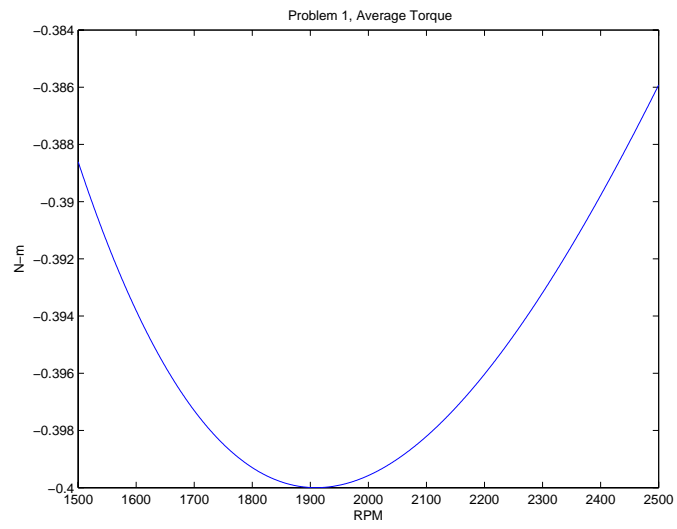

Figure 4: Problem 1: Average Torque
4. The last part of this is simply taking the average value of torque and plotting over a range of speeds. This is plotted in Figure 4.